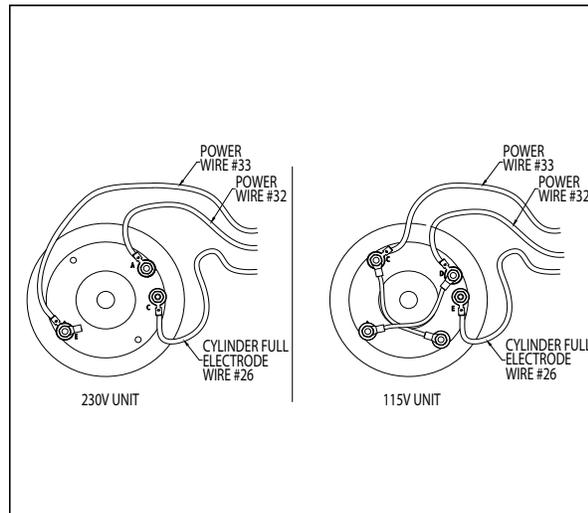

Figure 12B
2. Turn off power to the unit at the external disconnect. Disconnect electrode power wires (#32 & #33) and cylinder full electrode wire (#26) from the cylinder. These connections are 1/4" quick connects. (See Figures 12B, 12C, and 12D.)
8. Reconnect electrode power wires (#32 & #33) and cylinder full electrode wire (#26). Make sure that all electrical connections are securely tightened. (See Figures 12B, 12C, and 12D.) Replace cover and four screws.
Check cylinder connections. (See Figure 12B.)